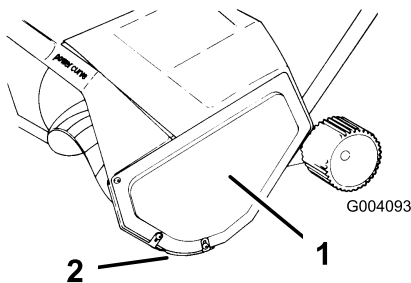

Figure 15
Note: If you cannot remove the rotor shaft by holding the rotor, remove the left side cover and the skid (Figure 15).
1. Remove the 3 screws that secure the left side plate to the snowthrower frame (Figure 15).
1. Remove the screws that secure the left side plate and the skid to the snowthrower frame (Figure 15).